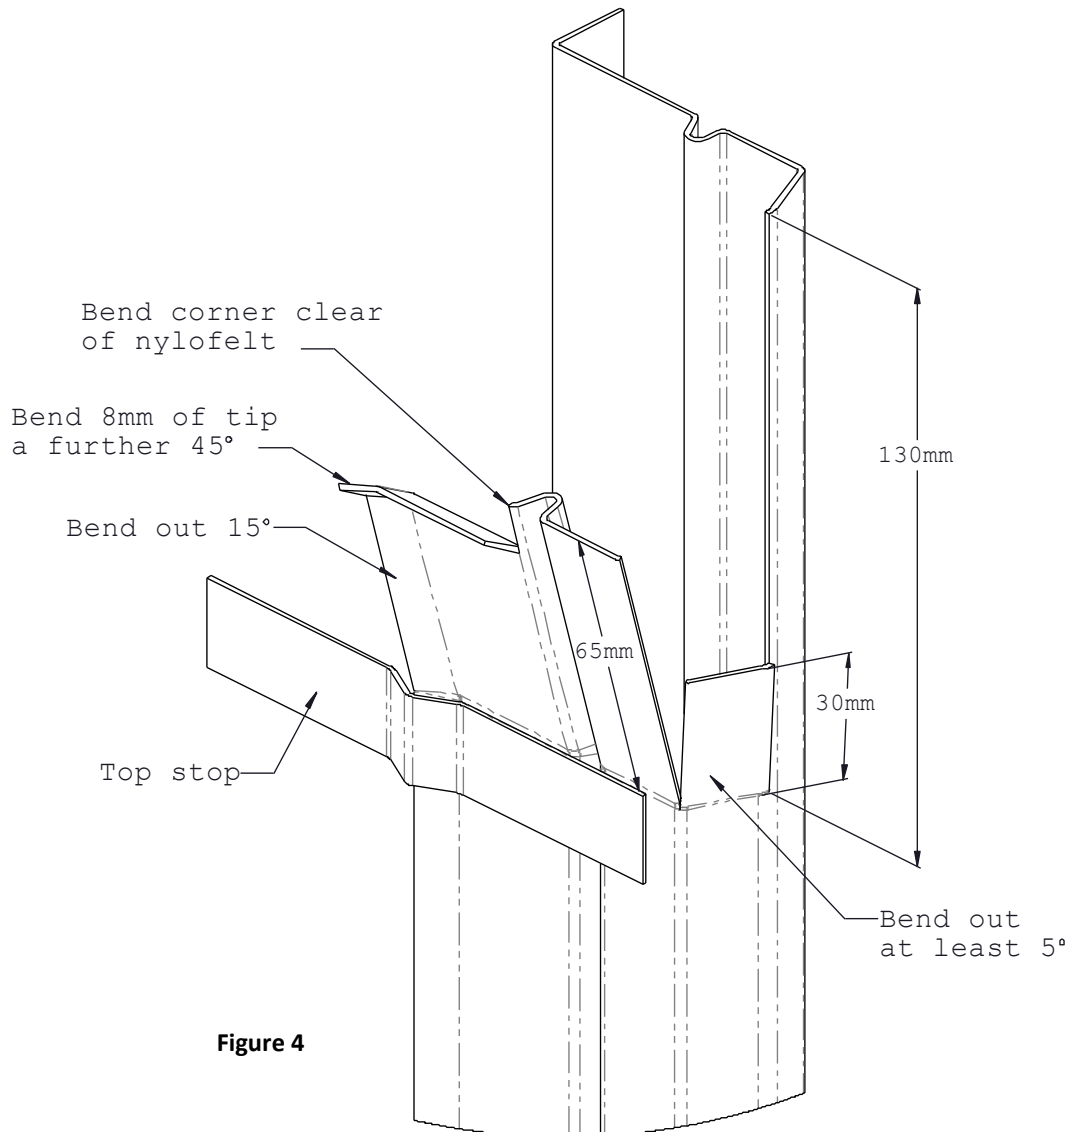

Figure 4
5. Prior to fixing the Guide Tracks to the wall, ensure the tops are formed as in Figure 4